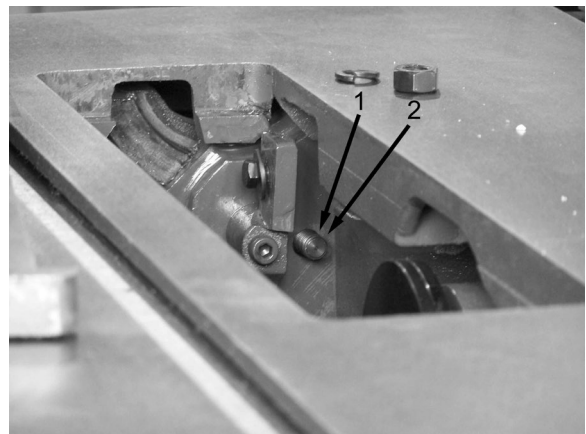

Figure 18
3. Remove the table insert then secure the blade guard support rod with lock washer (1) and nut (2) as shown in figure 18.